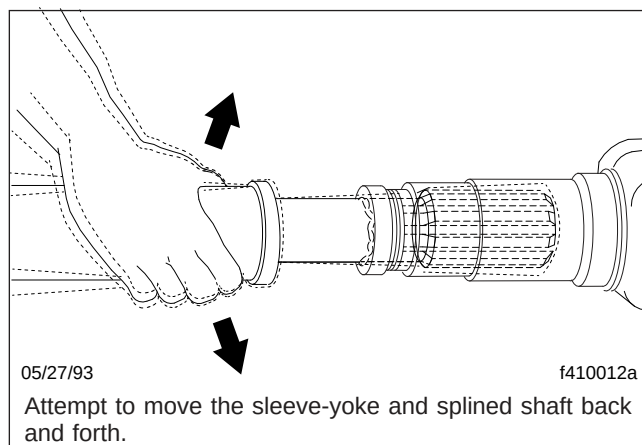

Fig. 4, Slip Joint Spline Wear Checking
6. Check slip joints for spline wear by moving the sleeve-yoke and splined shaft back and forth. See Fig. 4. If the slip joint can be twisted in a clockwise or counterclockwise movement greater